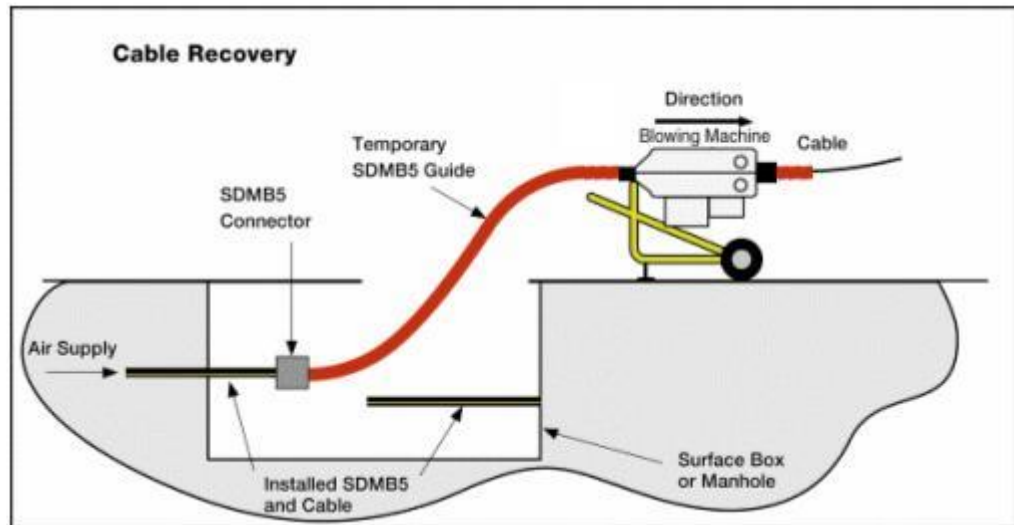

Figure 18 Schematic diagram showing correct position of plant and equipment for cable recovery
Cables in routes longer than 1 km should be cut and recovered in two or more sections. Air is applied at the far end of the route and the blowing machine is positioned at the near end in order to pull out the cable. Figure 18 shows the layout of plant and equipment for cable recovery.
3. Terminate an Air Guard onto a temporary length of SDMB5 (distance SDMB5 to machine plus the length of the machine) and using a Connector 1 connect onto the installed SDMB5, as shown in Figure 18.